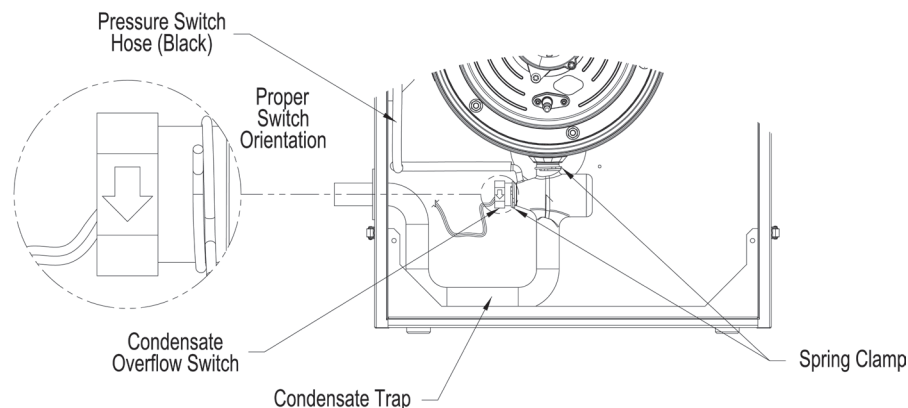

Figure 44: Condensate Overflow Switch Orientation
- e. Apply silicon sealant to the replacement switch threads and install the switch into the trap body making sure it is properly oriented - the arrow molded into the switch hex end side must face down for proper switch operation. See Figure 44 "Condensate Overflow Switch Orientation" for details.
overflow switch threads and the switch is properly oriented relative to the trap body - the arrow molded into the switch hex side end must face down for proper switch operation. See Figure 44 “Condensate Overflow Switch Orientation” for details.